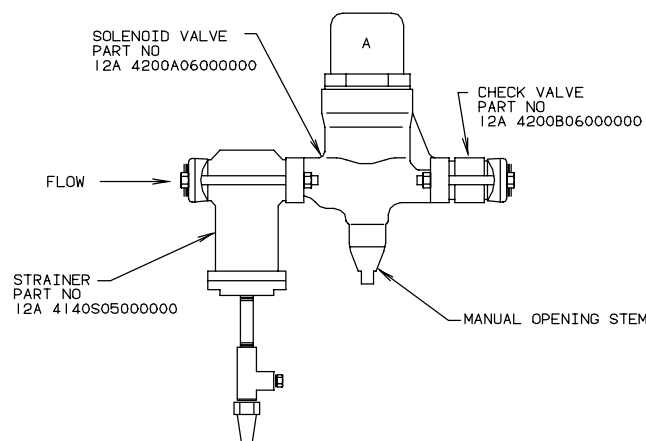

FIGURE 9-4
The Liquid Feed Solenoid Valve (20), Figure 9-4, is opened and closed during the freezer cycle by the float switch #10, in order to maintain the proper freezer refrigerant level. It is closed when the machine is off to prevent liquid flow from the receiver to the freezer.